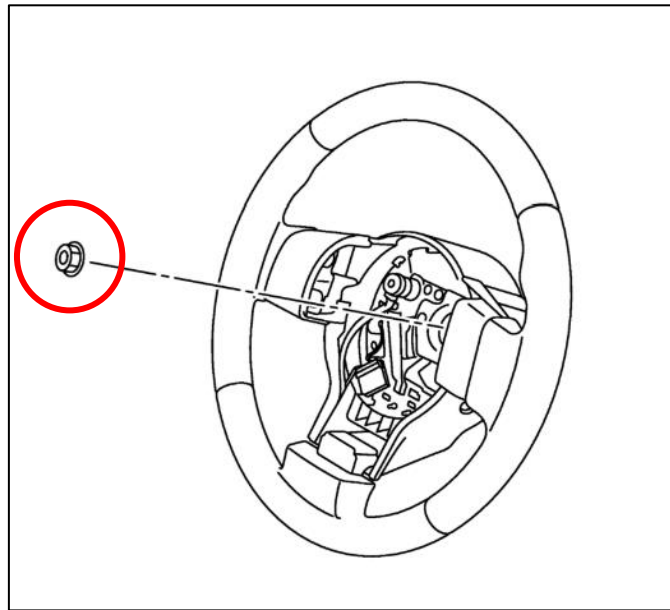

Figure 4
10. Using an impact gun, remove the nut in the center of the Steering Wheel. *Figure 4.*